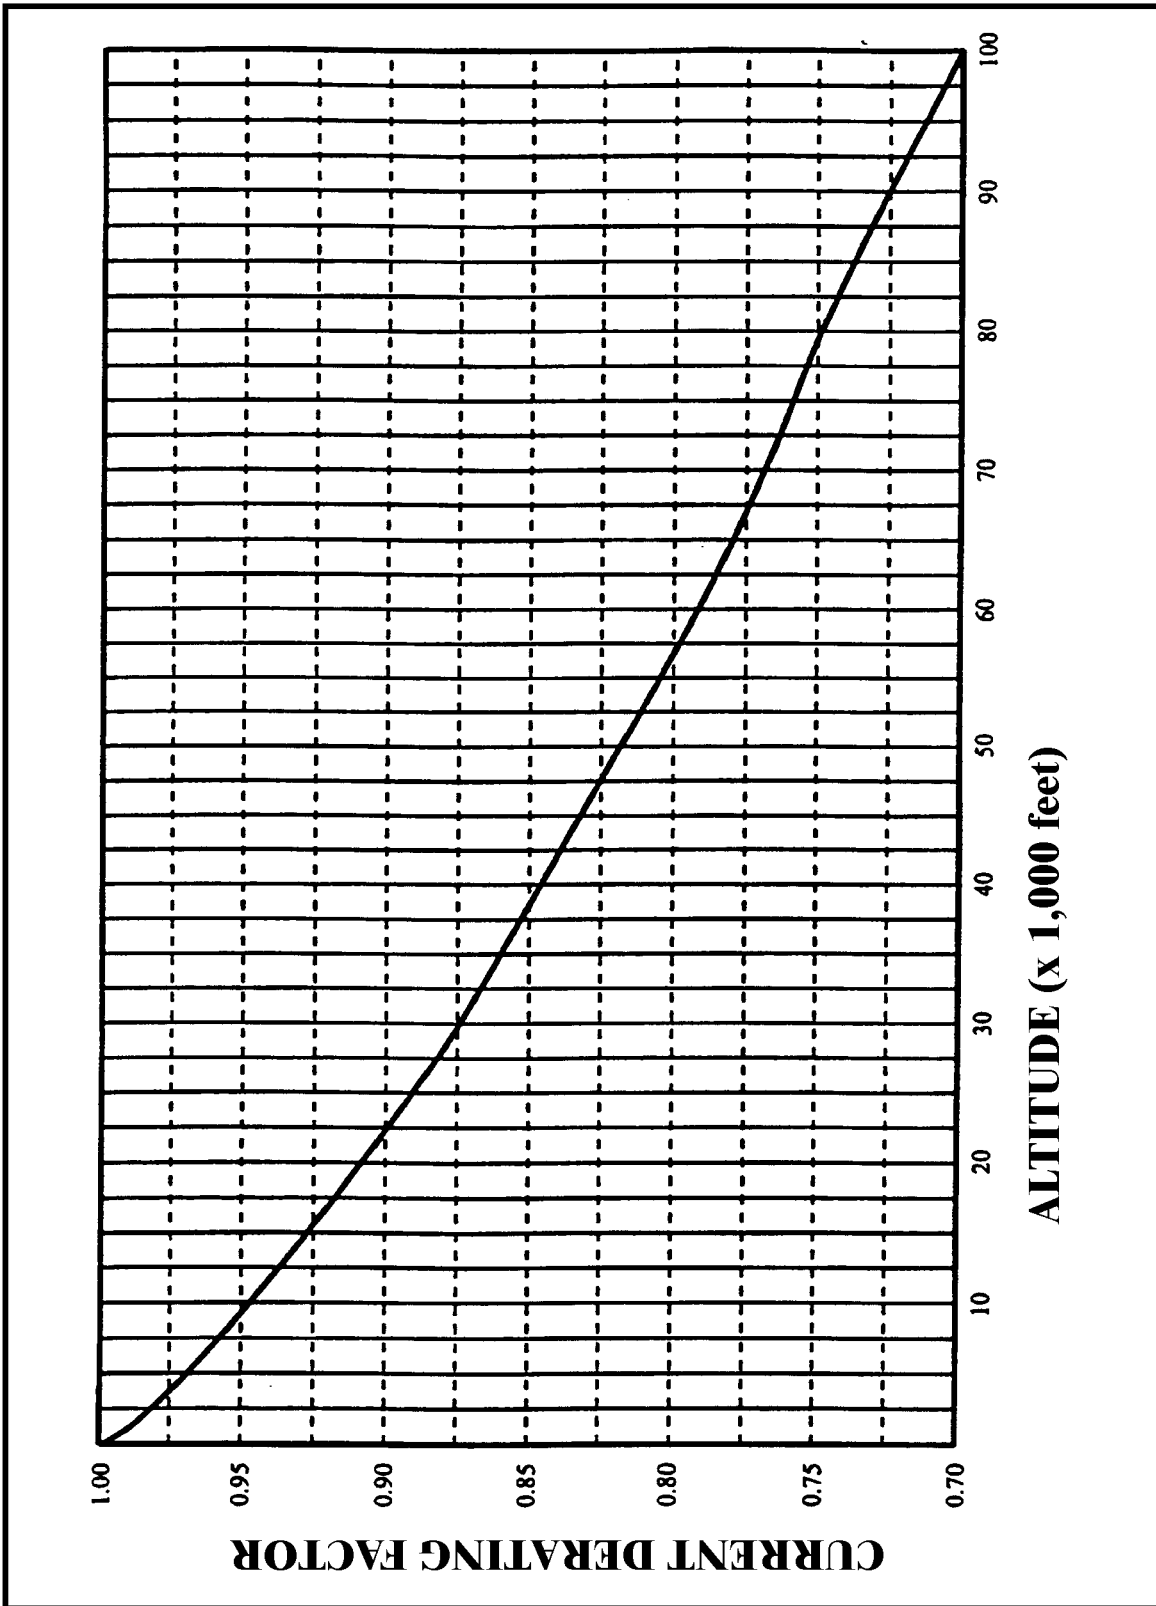

FIGURE 11-6. Altitude derating curve.
e. Harness at Altitude. Since heat loss from the bundle is reduced with increased altitude, the amount of current should be derated. Figure 11-6 gives a curve whereby the altitude-derating factor may be obtained.
(5) Use figure 11-6, find the derate factor for 8 wires in a bundle at 60 percent. First find the number of wires in the bundle (8) at bottom of graph and intersect with the 60 percent curve meet. Read derating factor, (left side of graph) which is 0.6. Multiply 0.6 x 42.77 Amps = 26 Amps.
STEP 4: Refer to the “altitude derating curve” of figure 11-6, look for 60,000 feet (on the abscissa) since that is the altitude at which the vehicle will be operating. Note that the wire must be derated by a factor of 0.79 (found on the ordinate). Derate the size #22 harness rating by multiplying 8.4 amps by 0.79 to get 6.6 amps. Derate the size #20 harness rating by multiplying 11.2 amps by 0.79 to get 8.8 amps.
STEP 4: Refer to the “altitude derating curve” of figure 11-6, look for sea level and 20,000 feet (on the abscissa) since these are the conditions at which the load will be carried. The wire must be derated by a factor of 1.0 and 0.91, respectively.